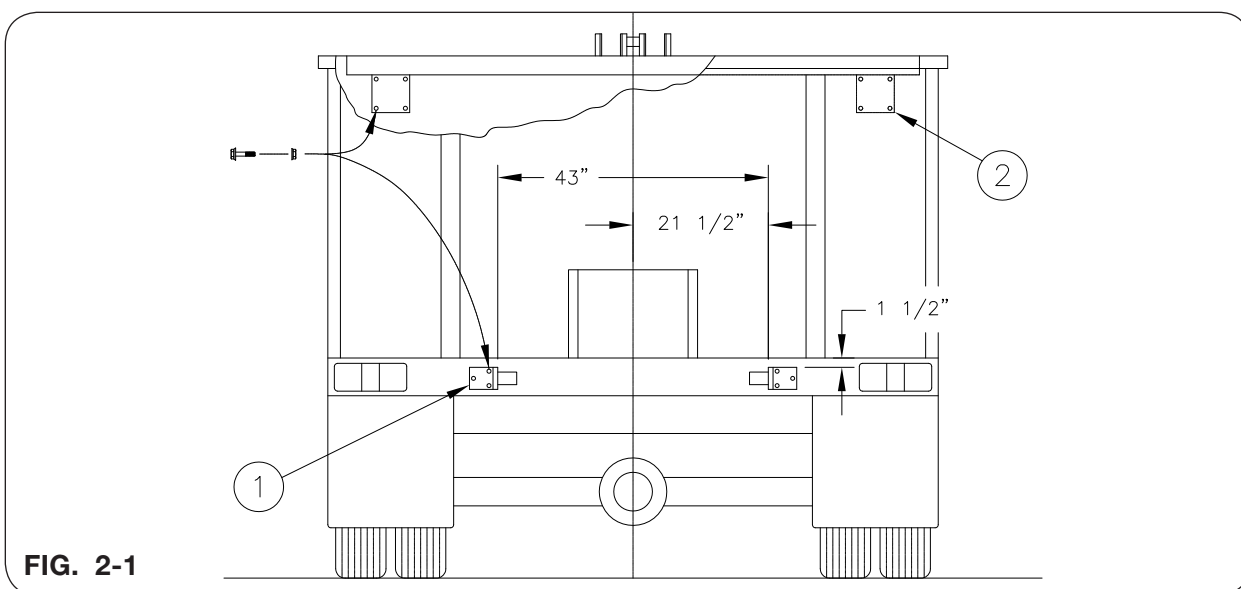

FIG. 2-1
1. Install brackets to the back of the truck frame by positioning brackets into place and drilling three 1/2" dia. holes per bracket. Secure by inserting three 1/2" flange bolts and flange nuts per bracket. Refer to FIG. 2-1 for proper position.
2. Install transport latch weldment to the top inside of the truck box. Drill four 1/2" dia. holes per side and secure with eight 1/2" flange bolts and flange nuts (FIG. 2-1).